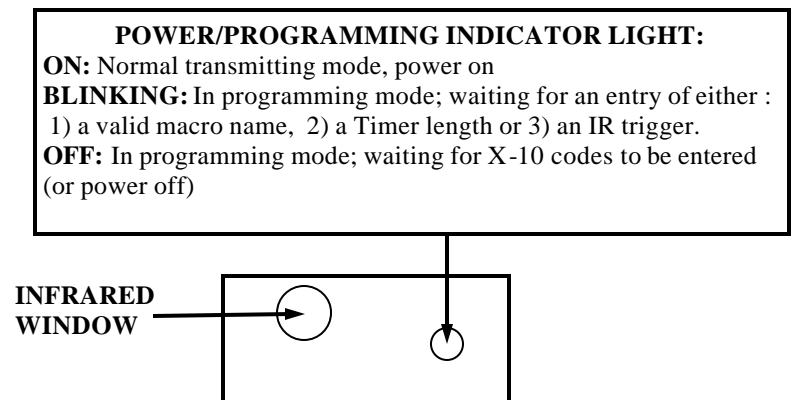

FIGURE 2: VIEW OF FRONT FACE OF *PRO MacroController*
- 4 On the front face (see Figure 2) the red power/programming light should light after 1 second upon connection to power. Next to the red light is the window for the IR (infrared) receiver. Make sure this window is in line of sight of the IR remote controller that is being used.